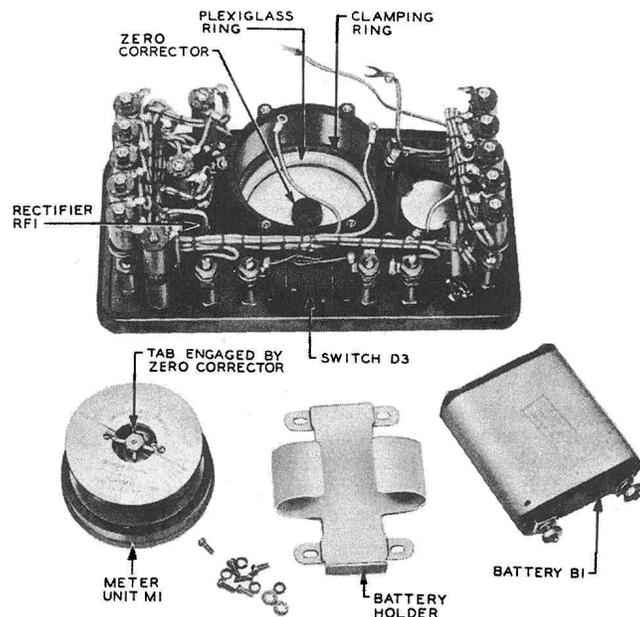

Fig. 11 - Location of Parts of M9B Meter - Battery Holder and Meter Unit Removed
5.06 The meter unit is housed within a cylindrical phenol-plastic wall which is part of the top panel (Fig. 11). If it is necessary to remove the meter unit, it must be handled with care, and particular care must be taken when replacing the unit in its housing as covered by Item (6) below. Instructions for removing and replacing the meter unit follow:
- (1) Disconnect the leads from the battery and slide the battery from its holder.
- (2) Remove the battery holder by removing the screws which attach it to the meter unit housing.
- (3) Loosen the two screws which fasten the spring clips and turn the clips clear of the meter unit.
- (4) Note the color of the lead attached to each of the meter terminals on the rear of the meter unit. Disconnect these leads by removing the terminal screws.
- (5) Place the palm of the hand over the meter unit and turn the panel face upward so that the meter unit slides out into the hand.
- (6) Before replacing the meter unit in the housing, carefully note the position of the turned-up brass tab close to the center of the meter assembly which determines the zero setting of the pointer (Fig. 11). This brass tab must be engaged by one of the small slots in the zero corrector which is mounted in the center of the glass meter window. Holding the meter unit face upward in the palm of the hand, carefully slide the meter panel housing down over it in such a way that the relative position of the brass tab and the engaging slot of the zero corrector will be approximately right; then when almost fully in place, carefully turn the meter unit in the housing until the pointer adjusting tab slides into the slot in the zero corrector. If the meter unit face is not lined up straight in the shell, carefully rotate the meter unit in order to position the dial properly, keeping the brass tab and zero corrector engaged. Use care in performing this operation since serious damage may be done to the meter unit by careless or rough handling.
- (7) Holding the meter unit in place, turn the panel face down; reposition the spring clips; replace the meter unit terminal leads, the battery holder, and the battery.
- (8) Replace the panel on the casing, place on a level surface, and adjust the zero reading of the pointers by turning the zero corrector with a screwdriver or small coin.